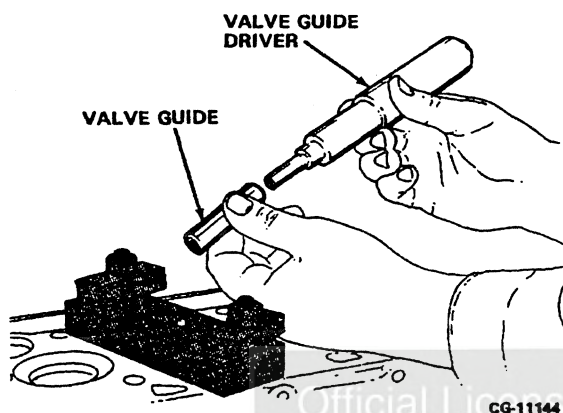

Figure 3.40. Positioning Valve Guide onto Driver
16. Position a new valve guide on the valve guide driver. Refer to Figure 3.40.